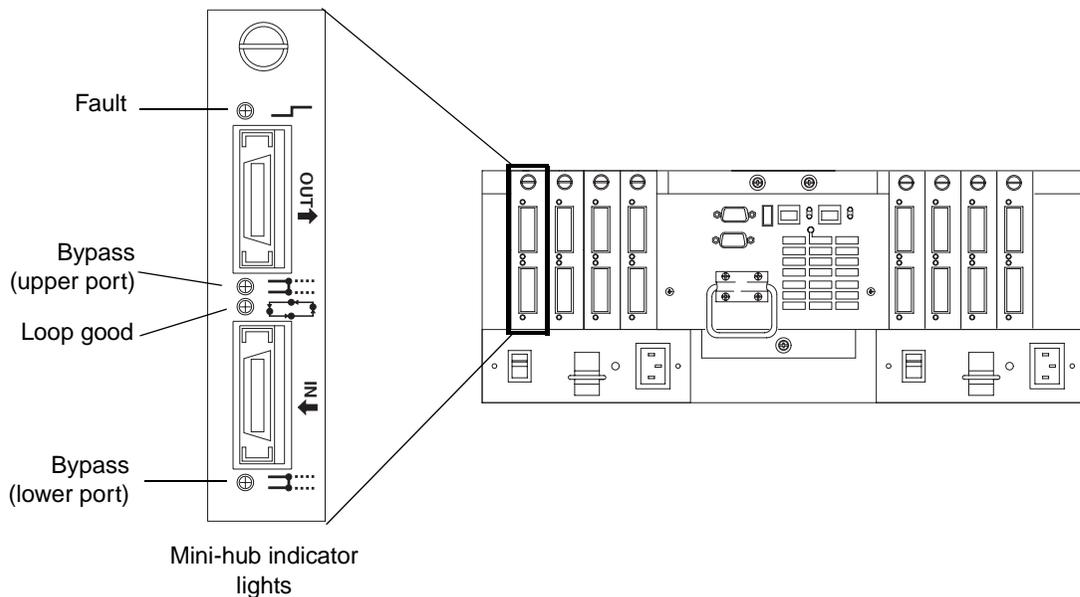

Figure 11. Mini-hub indicator lights
- 4 Check the indicator lights on the mini-hubs, as shown in Figure 11 on page 19 and described in Table 4 on page 20.
The mini-hub indicator lights on the back of the controller unit are shown in Figure 11 and described in Table 4 on page 20.